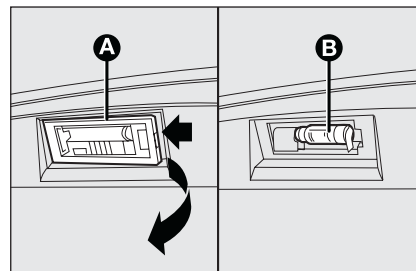

fig. 31
- apply pressure to the point shown by the arrow and remove lens **A**-**fig. 31**;